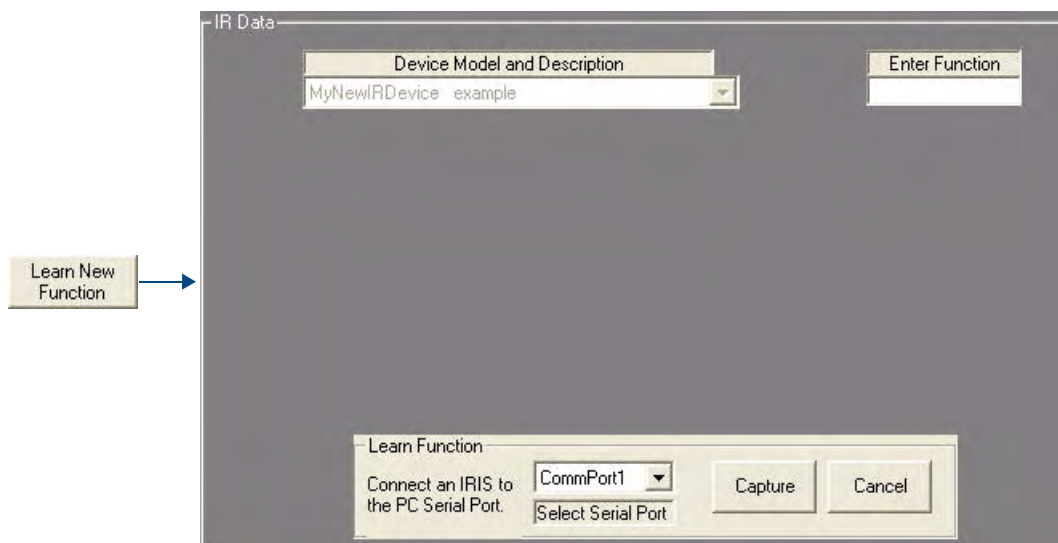

FIG. 52 AMX IR Library dialog - Learn New Functions fields
5. Click on **Learn new function** to invoke the *Learn Function* fields (FIG. 52):